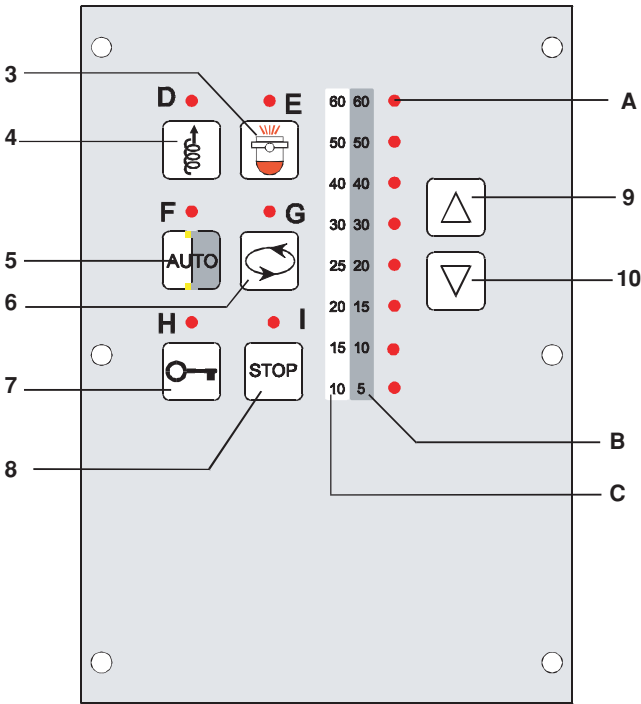

Fig.4
- The green light of the main switch turns on; all the led indicators of the keyboard light up for a few seconds; afterwards, the first six red Leds (A, fig. 4) and the STOP indicator light (H, fig. 4) keep lit and, provided the arm has already reached its position, also the indicator led corresponding to the Coil Raise push-button starts blinking (D, fig. 4).
If the heater coil is up and a hot crucible is dipped in the heating coil, first press the Stop push-button (8, fig. 4), and then switch off the machine.
- From the bottom to the top (casting): rotate the arm and move it to the required position (the crucible must be over the heater coil) until the light of the coil raise push-button starts blinking (4, fig. 4), then depress the above mentioned push-button.
- From the top to the bottom: press the Stop push-button (8, fig. 4).
- To cast in the Manual mode, press the Casting key (3, fig. 4). Its Led indicator turns on.
- To cast in the Automatic mode, press the Auto key (5, fig. 4): the pilot light of the Casting Start key blinks. Afterwards, set the casting stabilisation time by means of the Increment or Decrement keys (9 and 10 on fig. 4) making reference to the scale C shown on fig. 4. Press the melting Start key (3, fig. 4): the pilot light of the Centrifugation key starts blinking. As above described, enter also the centrifugation time by making reference to the scale B shown on fig. 4. Finally, press the Centrifugation (6, fig. 4) and the Casting Start (3, fig. 4) keys.
At any time the operator may return to the Manual mode by pressing the Auto key (5, fig. 4).
The casting power rating may be changed, even if the casting process is already in progress, by means of the Increment or Decrement keys (9 and 10 on fig. 4).
- press the Casting-Centrifugation Stop push-button (8, fig. 4);
To set the centrifugation time, at the end of which the centrifuge is automatically stopped, press first the Auto key (5, fig. 4), and then the melting Start one (3, fig. 4): the light of the Centrifugation Start key starts blinking and the light of the Auto key keeps lit. Set the wanted time by operating the Increment and/or Decrement key (9 e 10, fig. 4), by making reference to the time scale B on figure 4. Finally, press the Centrifugation Start key (6, fig. 4) and the Auto one (5, fig. 4); their associated pilot light turns off.
- press the Centrifugation key (6, fig. 4);
2. in the Auto mode (led of the Auto key (5, fig. 4) lit)
- the centrifuge starts immediately after the set temperature holding time has elapsed. Five seconds before the centrifugation, the Led of the Auto key (F, fig. 4) starts blinking and a sound signal is raised. To return to the Manual mode, simply press the Auto key.
- manually: to stop the arm before an automatic stop, press the Casting-Centrifugation Stop push-button (8, fig. 4).
The lid may be opened only on condition the Lid locked pilot light (H, fig. 4) is off and the machine is live. Under this condition, simply grip the handle and pull it up.
CGV5: Sintered plumbago crucibles appropriate for casting of Palladium alloys and of all the precious alloys. Here all the precious-alloy castings result to be highly improved. When first using this crucible, care for heating it slowly; to this purpose, set the casting power rating at the lowest value (press the key 10 - fig. 4)) until - during the metal heating process - only one of the multifunction Led indicators is lit (A, fig. 4), taking care of keeping the temperature differential between heated metal and crucible to a minimum.